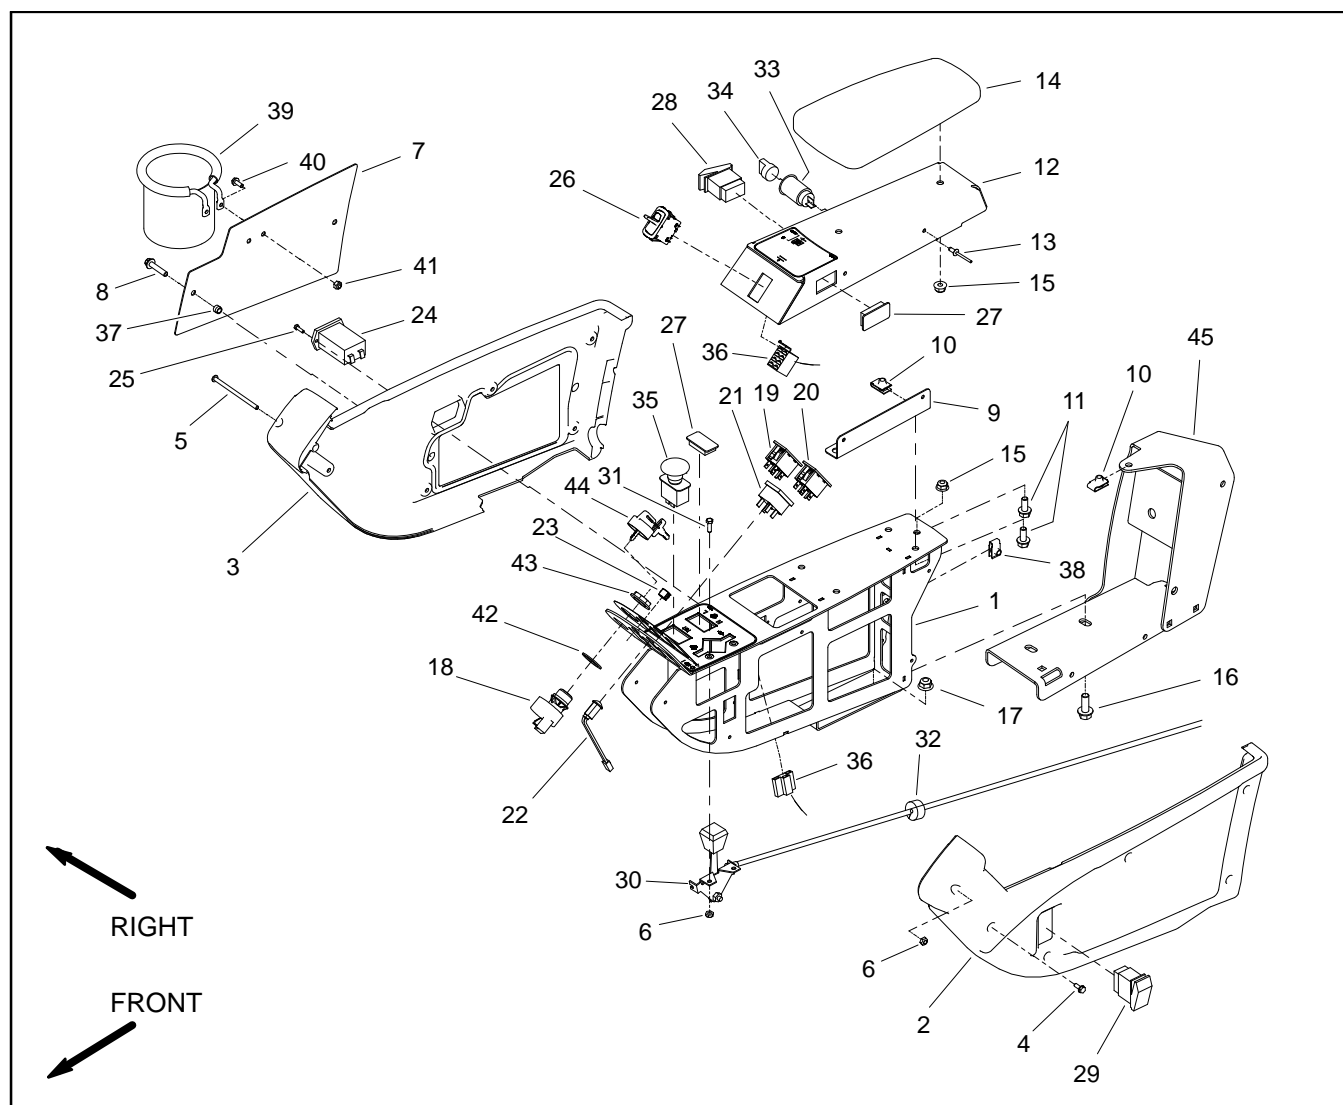

Figure 5
### Disassembly (Fig. 5)
2. Remove two (2) flange head screws (item 8) and then cover plate (item 7) from outside of console arm. Locate and retrieve two (2) flange spacers (item 37).
3. At front of console arm, remove screw (item 5) and lock nut (item 6) that secure console arm covers to each other.
4. Remove five (5) washer head screws (item 4) that secure each cover to console arm panel.
5. Remove console arm covers from machine. As LH cover (item 2) is removed from console arm, unplug wire harness connector from headlight switch.
6. Remove electrical components from console arm as needed using Figure 5 as a guide.
7. If necessary, remove console panel and supports from machine using Figures 5 and 6 as guides.
### Assembly (Fig. 5)
1. Install all removed electrical and console arm components using Figure 5 and 6 as guides.
2. Position covers to console arm. As LH cover (item 2) is placed, plug wire harness connector to headlight switch.
3. Secure each cover to console arm with five (5) washer head screws (item 4). Install screw (item 5) and lock nut (item 6) to secure covers at front of console arm.
4. Position cover plate and flange spacers to outside of console arm. Secure with two (2) flange head screws.